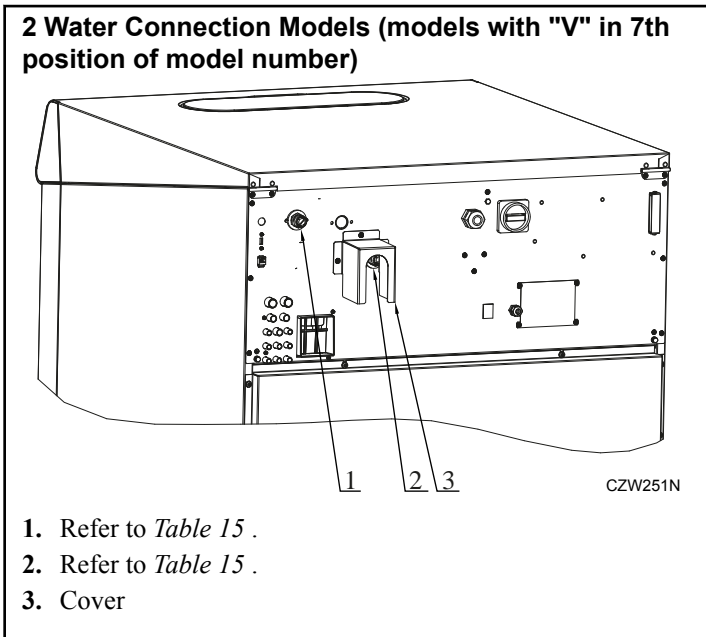
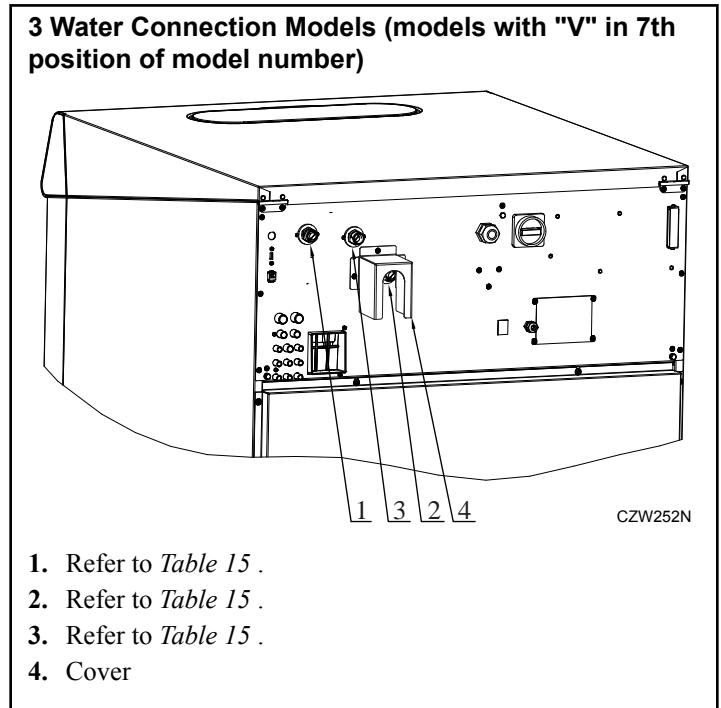

Figure 31
Figure 33
**NOTE: Read Important Safety Instructions first. For installations in Europe, the machine should not operate and used without this cover in case the hot water supply temperature is higher than 65°C. Refer to *Figure 31* and *Figure 33*.**